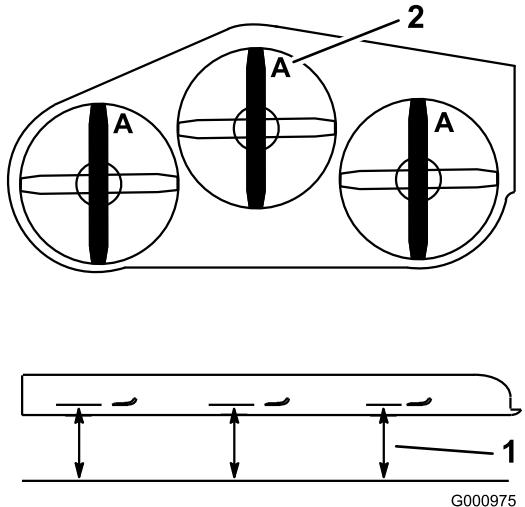

Figure 90
3. Rotate the blades until the ends face forward and backward (Figure 90).
4. Measure from a level surface to the cutting edge, position A, of the blades (Figure 90).